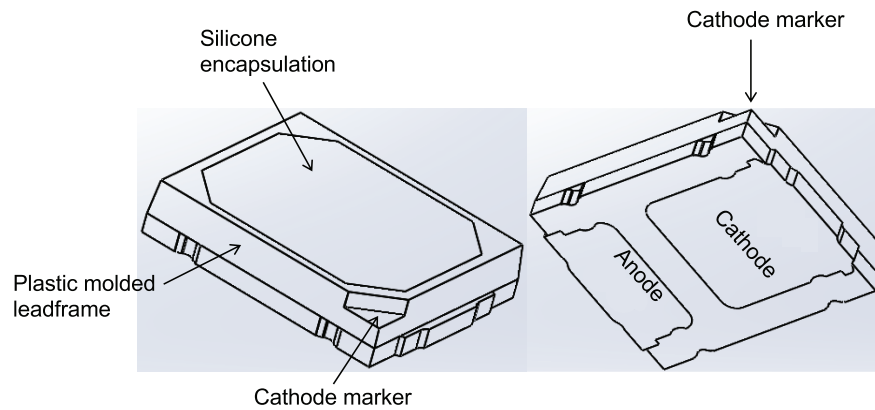

Figure 1. Package rendering of the LUXEON 2835 Commercial
The LUXEON 2835 Commercial emitter (see Figure 1) is a plastic molded, no-lead, surface mount package consisting of an anode and a cathode. A chamfer on the corner of the package marks the cathode side of the emitter package. Majority of the heat is being dissipated through the larger pad (cathode). For the LUXEON 2835 package, without the option of a transient voltage suppressor (TVS) chip to protect the emitter against electrostatic discharges (ESD), appropriate precautions should, therefore, be taken when handling such device (see Section 5.5).
2. The nozzle outer diameter or size should also not be smaller than the silicone encapsulant surface (Figure 1 and Figure 5) otherwise this may allow the nozzle tip to be in full contact with the encapsulant area and may cause damage to the surface or cause pick-up/release issues. Note that the encapsulant is typically recessed below the white plastic housing and assuming a nozzle tip that is planar, the nozzle tip is able to rest on the edge of the white plastic housing and not in full contact with the encapsulant.